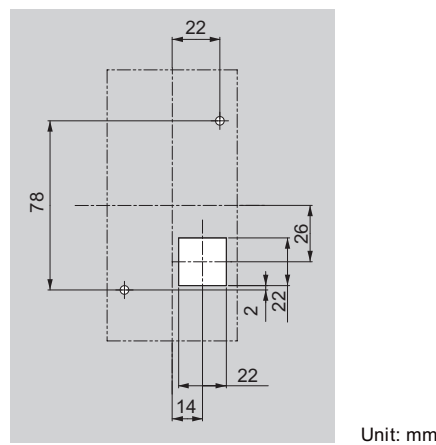

Figure 2.12 Panel Cut-Out Dimensions (External/Face-Mount Installation)
1. Cut an opening in the enclosure panel for the digital operator as shown in *Figure 2.12*.